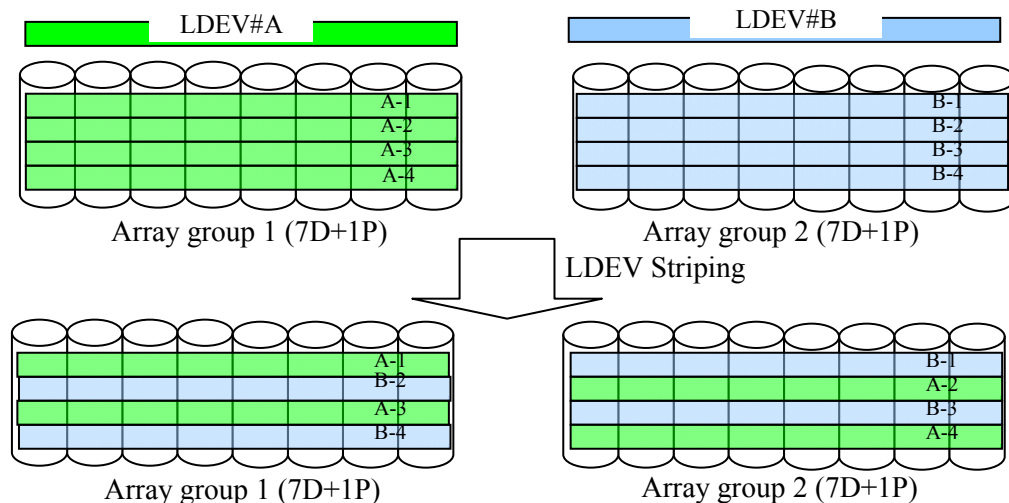

Figure 3-3 LDEV Striping Across 2 RAID-5 (7D+1P) Array Groups
- LDEV striping across two RAID-5 (7D+1P) array groups (see Figure 3-3). The maximum number of LDEVs in this configuration is 1000.